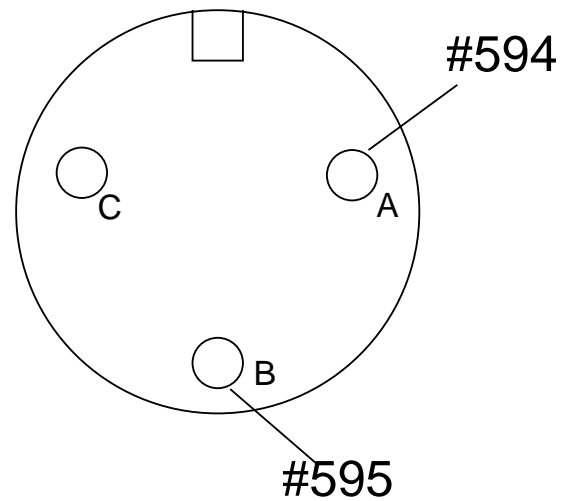

FIGURE B.5 Travel Motor Connector Pins
2. Using the ohmmeter measure the motor resistances per Table B.4. Also see Figures B.5. and B.6*